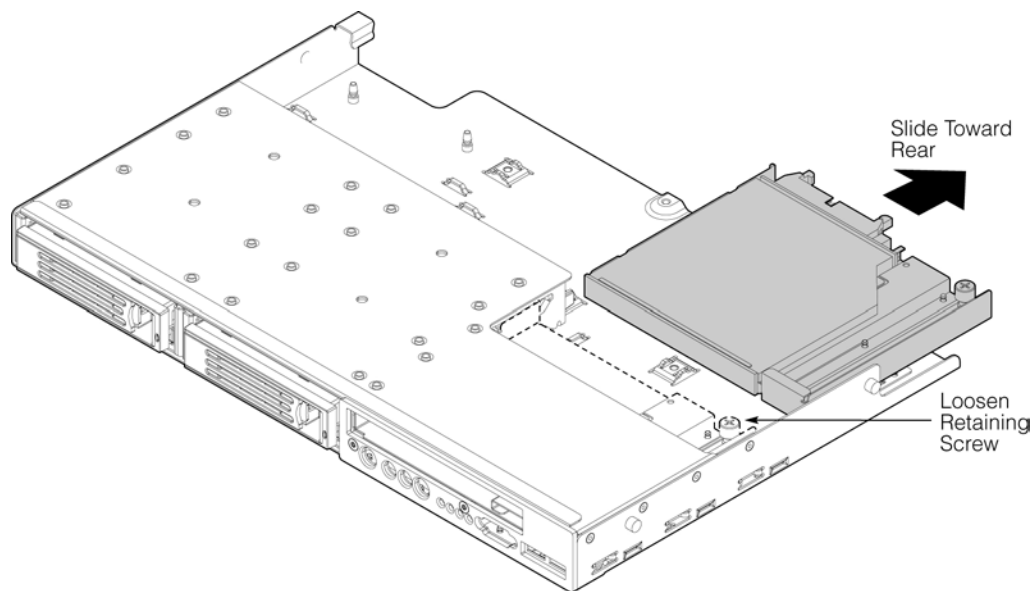

Figure 71. Removing the DVD-ROM/CD-ROM Drive Carrier from the Peripheral Bay
3. Loosen the retaining screw on the DVD-ROM/CD-ROM carrier and slide it rearward to remove it from the peripheral bay. See Figure 71.